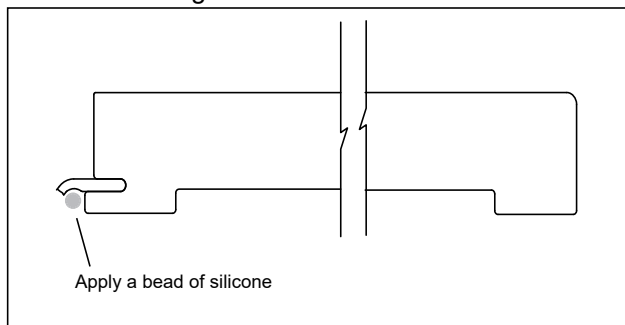

Figure 2
- Apply a bead of silicone to the backside of the barb. See figure 2.